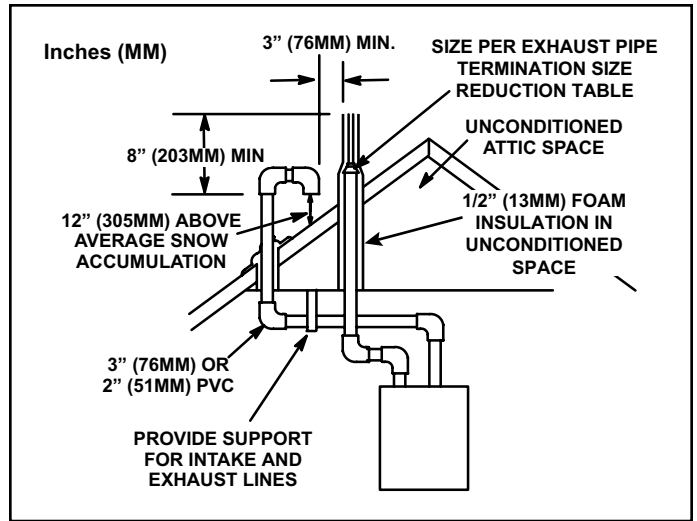

Figure 31. Direct Vent Roof Termination Kit (15F75 or 44J41)
Intake and exhaust pipes may be routed either horizontally through an outside wall or vertically through the roof. In attic or closet installations, vertical termination through the roof is preferred. Figure 31 through Figure 38 show typical terminations.
3. On roof terminations, the intake piping should terminate straight down using two 90° elbows (Figure 31).